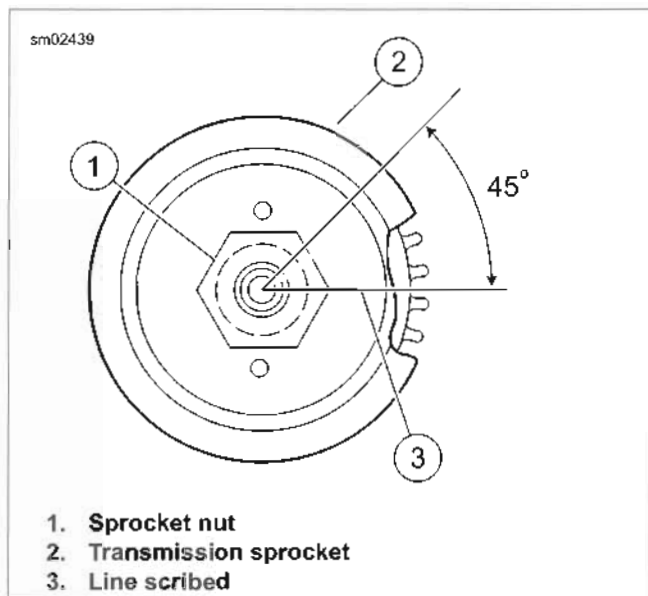

Figure 5-40. Sprocket Nut Final Tightening
See Figure 5-40. To determine proper angles during final tightening, scribe lines (3) or use TORQUE ANGLE GAUGE (Part No. SNAP-ON TA360) after the 35 ft-lbs (47.5 Nm) torque is applied.